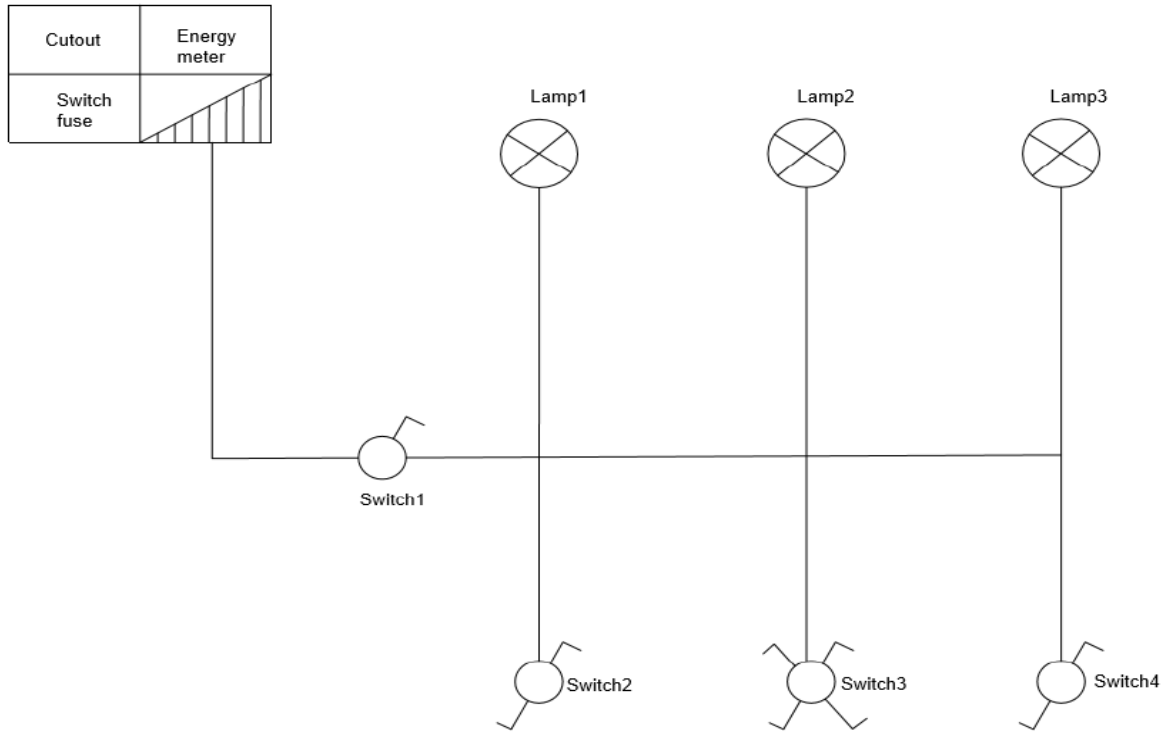

Figure 5 Layout diagram
- Figure 5 represents an electrical installation layout. Draw the wiring diagram such that switch 1 controls lamp 1 and either switch 2, switch 3 or switch 4 controls lamp 2 and lamp 3 independently. (12 Marks)